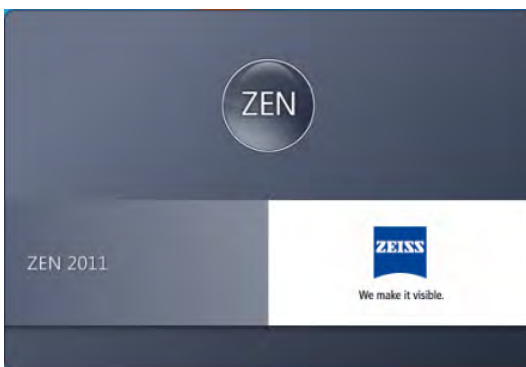

Fig. 4 Starting the ZEN software – The Loading "ZEN" window
- During loading the program the **ZEN Access** window will appear (Fig. 4). It displays the ZEN symbol in the upper part, the designation of the current ZEN software version (lower left) and the Zeiss icon (lower right).